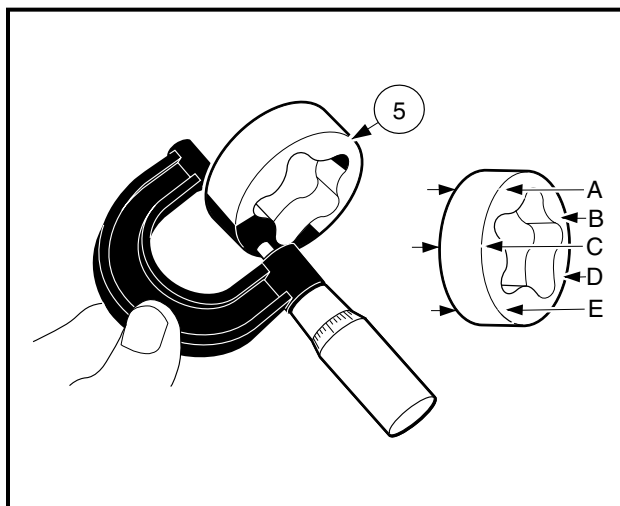

Figure 3-62 Measure Thickness of Outer Rotor
- 4.4. Use a micrometer to measure the thickness of the outer rotor at several points (**Figure 3-62, Page 3-30**).